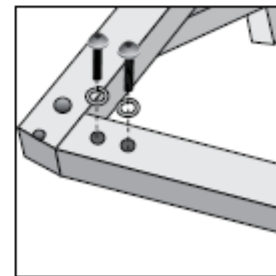

Figure 3
3. Insert bolts into aligned bolt holes, placing the washers between the frame and bolt. Tighten using included Allen wrench. (See Figure 3)